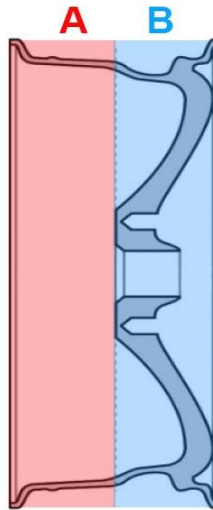
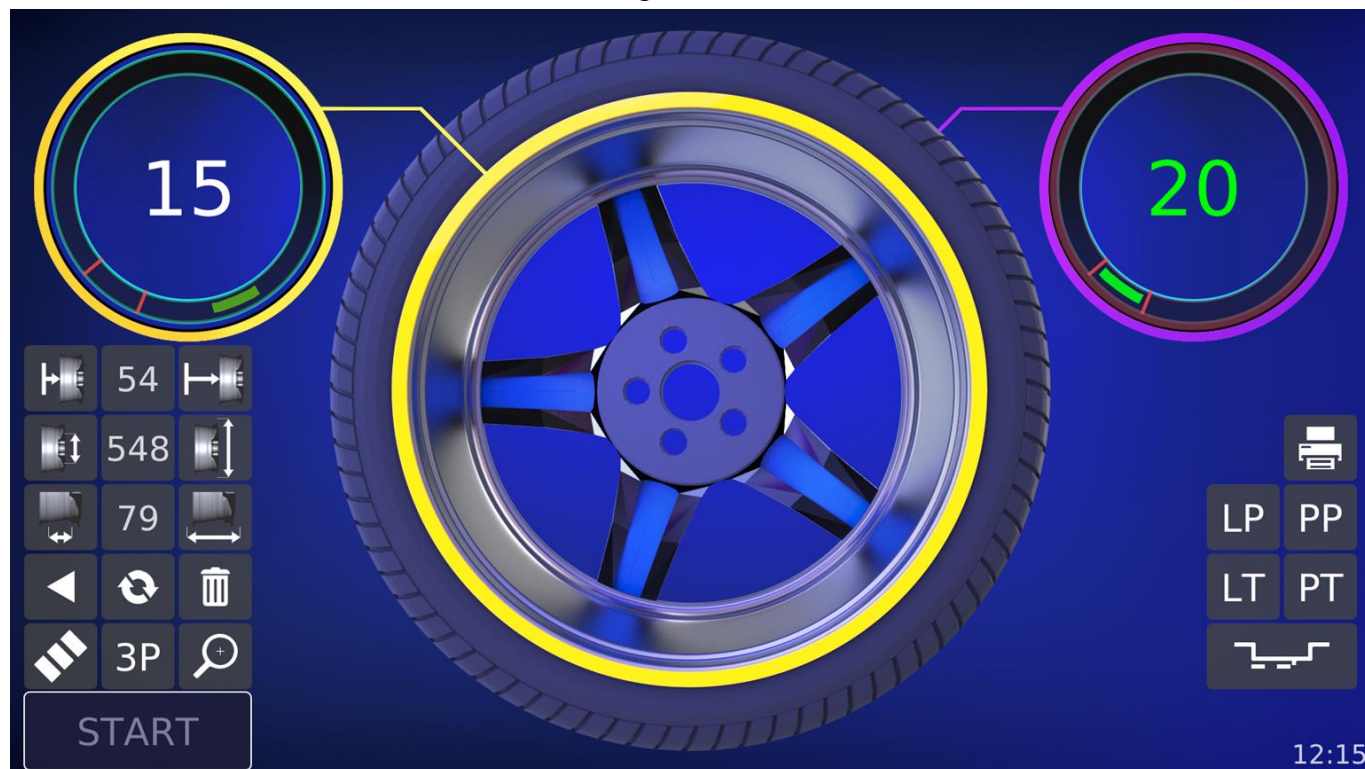

Fig. 17: Weights fastening zone
Fig. 20: Exemplary screen after the measurement
Additionally the print icons on the right side may be displayed on the screen. They are active only when printing is enabled in the settings. See the chapter PRINTING for a description. A field below the print icons is empty in Figure 16 and shows the weight distribution icon in Figure 20. This field appears after taking the measurement with the measuring arm or pressing the button , erase by pressing  and shows the selected weight fastening mode.
To measure with the measuring arm extend the arm so that the laser starts displaying a line and a dot on the rim. Regardless of whether the weight in space A from Figure 17 is to be clipped-on or taped-on - the laser dot of the arm is connected to the line **at the place of the planned weight attachment**. For clipped-on weights the dot should be aligned with the line on the left edge of the rim, as shown in Figure 18a. In the case of taped-on weights the dot should be placed on the line in the place where the weight is glued, as shown in Figure 18b.
After setting the laser in the appropriate position you need to wait about 2 seconds until the machine save the entered parameters. After the signal the second measuring phase begins with the measuring arm which will allow to determine where the weight for space B of the wheel from Figure 17 will be mounted. If weight is attached to the outer zone B (Figure 17) (not in the center of the rim but on its right edge) put the measuring arm in its place to the zero position. This is the
If the weight is to be mounted in the center of the rim in area B from Fig. 17, after saving the first measurement, insert the measuring arm inside the wheel. This will cause the wheel width to begin to change as the arm continues to move towards the center of the rim. After setting the arm head in the position directing the dot to the line, wait approx. 2 seconds until the machine emits a sound signal and records the result.
- a weight mounted in the center of the rim in area B from Figure 17,
If we want to hide the weight so that it is not visible after putting the wheel on, we can break it into two weights, which will be placed in places not visible from the outside - behind the rim spokes. Program 3P is active in dynamic mode and related to the right unbalance in zone B from Figure 17 for a point defined inside the rim or in static mode for a single point.
Activate the program by pressing **3P**. It always appears when the correction point in zone B from Figure 17 is defined inside the rim or when we measure in static mode. The minimum unbalance value for which the hidden weight option is activated is 7.5 g. An exemplary screen after the measurement has been made is shown in Figure 20.
We start the optimization by measuring the imbalance of the rim itself (without the tyre). Place the rim in the holder with the valve on the holder marker (3 in Figure 3) so that in the second run (after installing the tyre on it) you can mount the wheel in exactly the same way. Using the measuring arm indicate the point on the inner edge of the rim (space A in fig.17), close the hood, select **START**. The optimization has been measured by using the rim width determined from the indicated point and from the ultrasound measurement performed when closing the hood. In case of optimization the entry of the second point inside the rim is blocked.